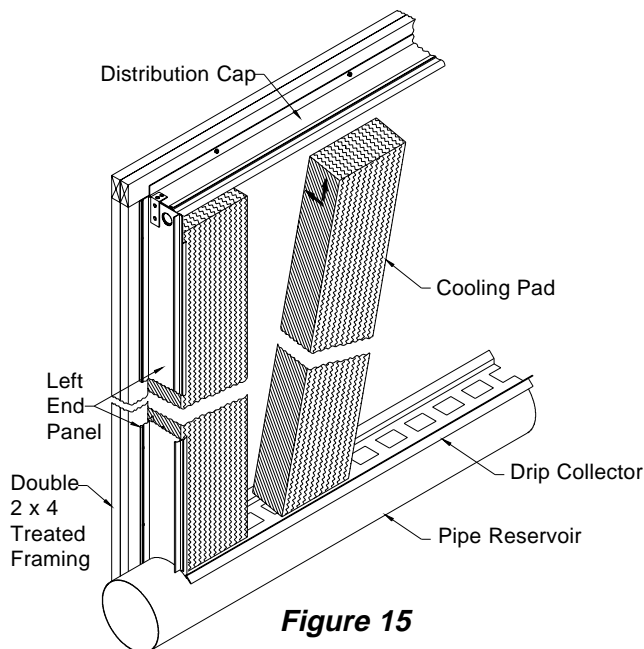

Figure 15
- 23) Begin putting cooling pad in place, taking care to position pieces so that the Directional Arrows are pointing upward and to the inside of the building. **See Figure 15.** Continue this pattern, stopping at the next to the last piece of pad. Set the right end panel in place (do not secure it).